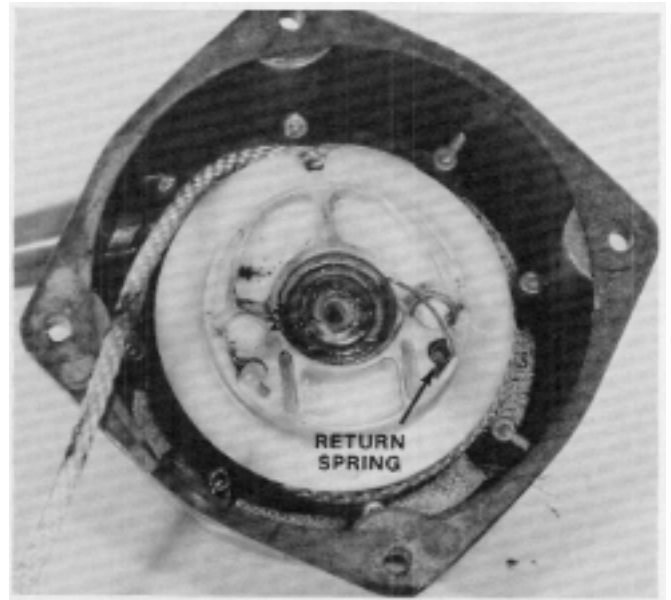

Figure 72
6. Insert the pawl return spring into position as shown in Figure 72.